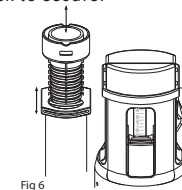

Fig 6
7. To set internal overflow level, measure from the base of cistern to waterline and add 20 to 50mm, ensure that the top of the overflow is a minimum of 10mm below any aperture in the cistern (e.g. fixing holes). To adjust overflow tube slide the overflow tube clip on the flush valve (B) (see Fig. 6), raise/lower to suit the installation, when height is set slide the overflow tube clip back to secure.